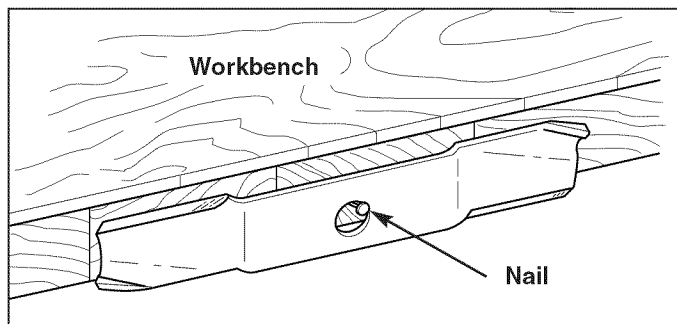

Figure 11. Balancing the Blade
5. Balance the blade as shown in Figure 11. Center the blade's hole on a nail lubricated with a drop of oil. A balanced blade will remain level.